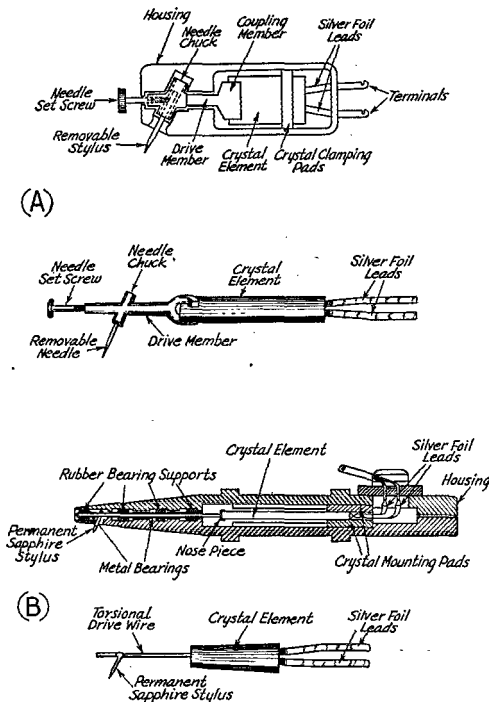

Fig. 2 — Crystal pickups.
Typical examples of crystal pickup construction are shown in Fig. 2. The inexpensive unit at (A) has a minimum of parts and is designed to be simple of construction. The needle chuck, holding a replaceable steel or alloy needle, is attached to the free end of the crystal element by a suitable coupling shaft suspended in trunnion bearings.